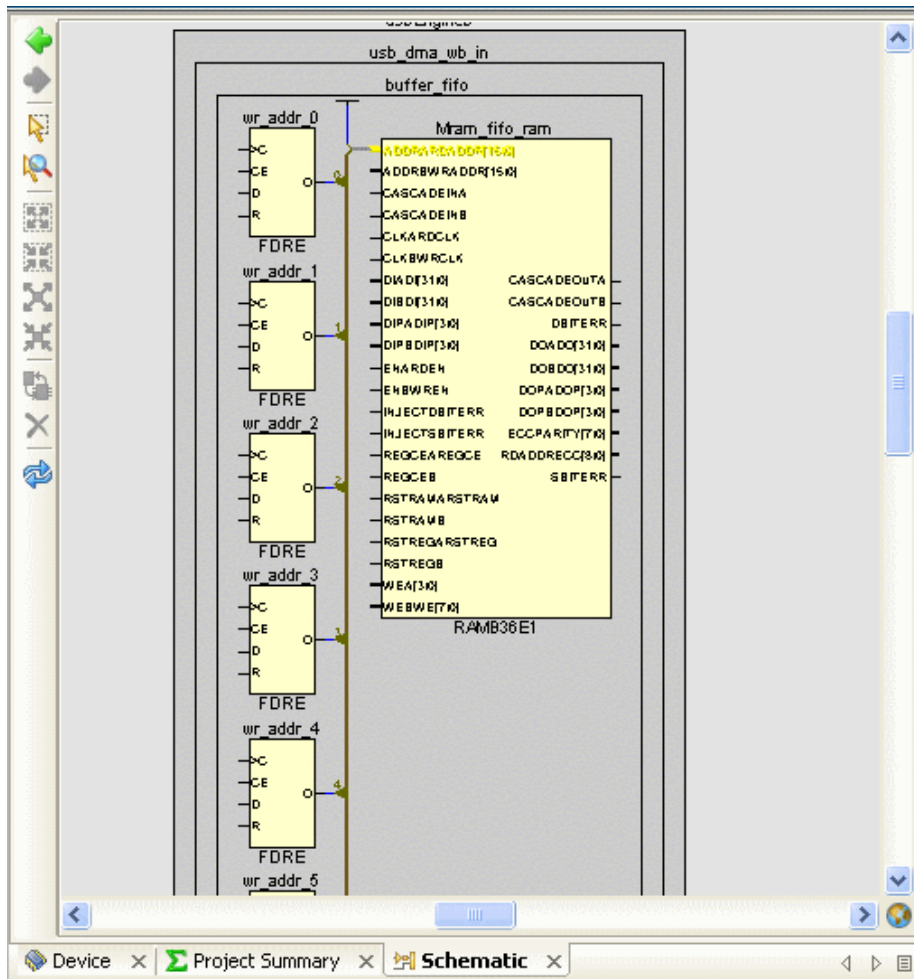

Figure 31: Interactively Expanding Logic in the Schematic View
- 7-2-7.** Double-click the **ADDRARDADDR[15:0]** pin (in the top left of the Block Ram) and notice that the logic connected to it is expanded (Figure 31).